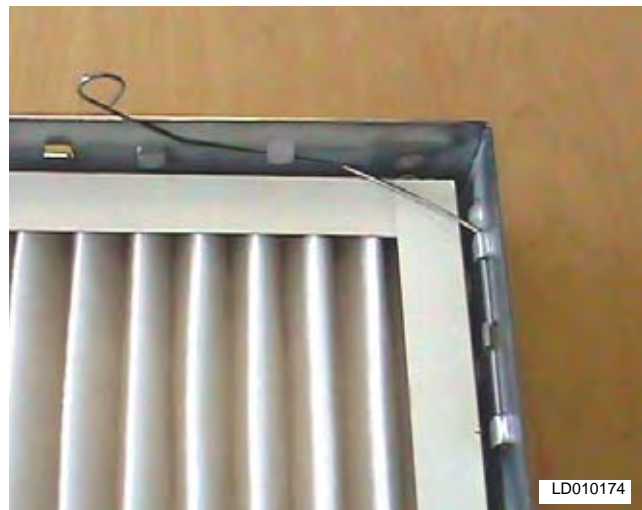

FIG. 2-100 – FULLY INSTALLED FILTER
6. The filter should now be securely installed into the frame (see Fig.2-100).